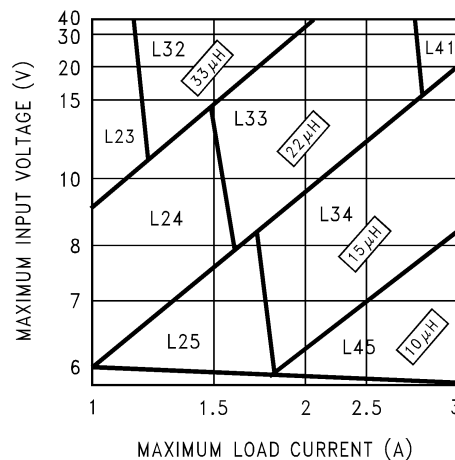
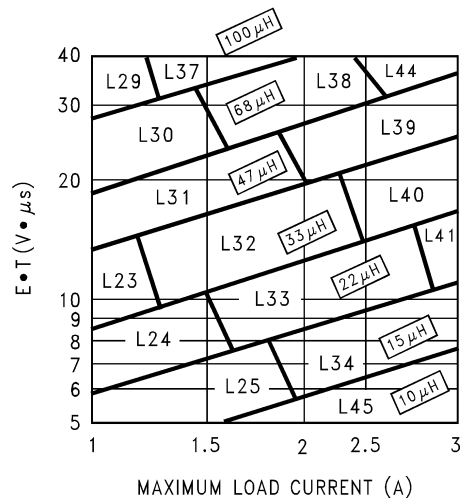

Figure 21. LM2670-3.3
Figure 24. LM2670-ADJ
Step 3: Determine the inductor required by using one of the four nomographs, Figure 21 through Figure 24. Table 1 provides a specific manufacturer and part number for the inductor.
Step 5: Determine an input capacitor from Table 8 or Table 9 for fixed output voltage applications. Use Table 3 or Table 4 to find the specific capacitor type. For adjustable output circuits select a capacitor from Table 3 or Table 4 with a sufficient working voltage (WV) rating greater than $V_{in\ max}$, and an rms current rating greater than one-half the maximum load current (2 or more capacitors in parallel may be required).
Step 3: Use the nomograph for the 3.3V device, Figure 21. The intersection of the 16V horizontal line ($V_{in \text{ max}}$) and the 2.5A vertical line ($I_{load \text{ max}}$) indicates that L33, a 22 μ H inductor, is required.
Step 3: To use the nomograph for the adjustable device, Figure 24, requires a calculation of the inductor Volt•microsecond constant ($E \cdot T$ expressed in $V \cdot \mu\text{S}$) from the following formula:
Using Figure 24, the intersection of 27V• μS horizontally and the 2A vertical line (I_{load} max) indicates that L38, a 68 μH inductor, should be used.
When using the adjustable device in low voltage applications (less than 3V output), if the nomograph, Figure 24, selects an inductance of 22 μH or less, Table 12 and Table 13 do not provide an output capacitor solution. With these conditions the number of output capacitors required for stable operation becomes impractical. It is recommended to use either a 33 μH or 47 μH inductor and the output capacitors from Table 12 or Table 13.